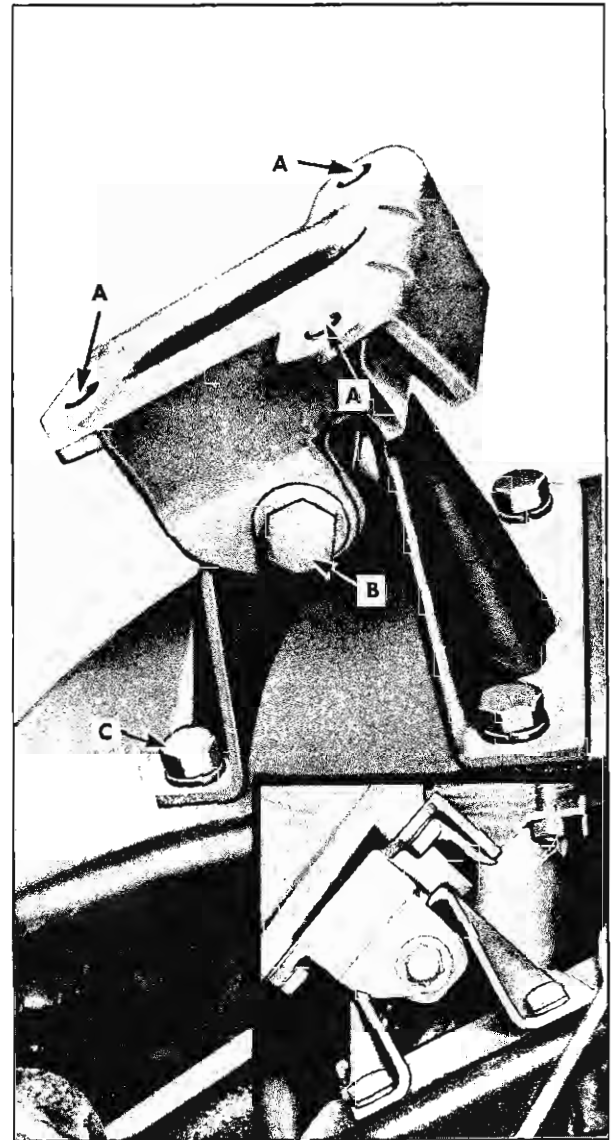

Fig. 154—Front Engine Mounts
2. Remove fuel pump and remove nut, bolt and washer at "B" (fig. 154) from mount.
3. Raise engine and remove three bolts and lockwashers at point "A" (fig. 154) bolts may be removed from bottom of vehicle with a universal socket wrench, using a long extension.
NOTE: Do not remove bolts at "C" location for engine mount removal (fig. 154).
4. Replace mounts and install bolts and lockwashers at point "A" (fig. 154) and lower engine into place.
5. Replace long bolts, washers and locknuts as shown in Figure 154 inset.
20. Raise engine slightly. Remove fuel pump and remove front mounting bolts (see figure 154). Remove transmission mounting block to frame cross-member bolts.